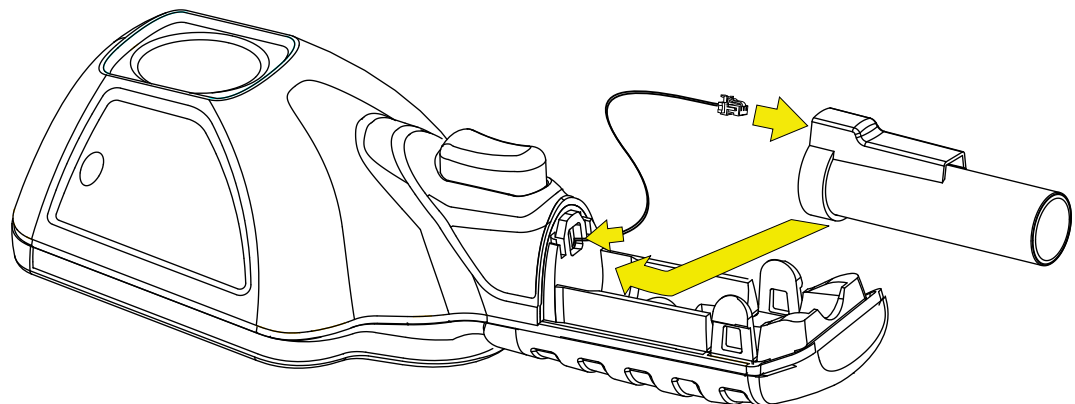

Figure 5-4
2. Feed the slacked harness into housing, as you install the battery pack into the housing (Figure 5-4).